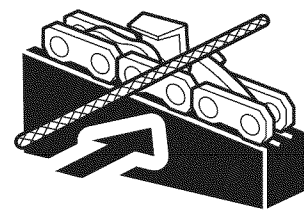
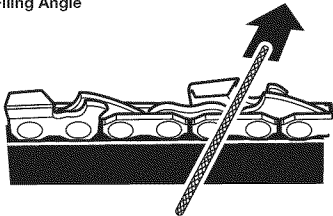

Fig. 41
Fig. 42
- Keep the file level with the top plate of the tooth (Fig. 41). Do not let the file dip or rock (Fig. 42).
- Using light but firm pressure, stroke towards the front corner of the tooth (Fig. 42). Lift the file away from the cutter before returning the file to the beginning of the sharpening stroke.